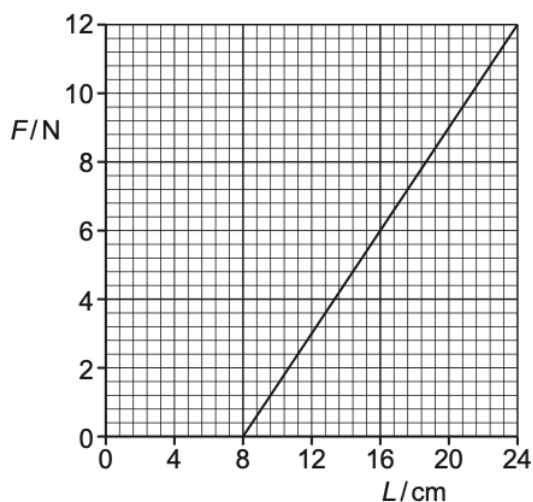

Fig. 4.1
- 15 A spring is suspended from a fixed point at one end. The spring is extended by a vertical force applied to the other end. The variation of the applied force  $F$  with the length  $L$  of the spring is shown in Fig. 4.1.